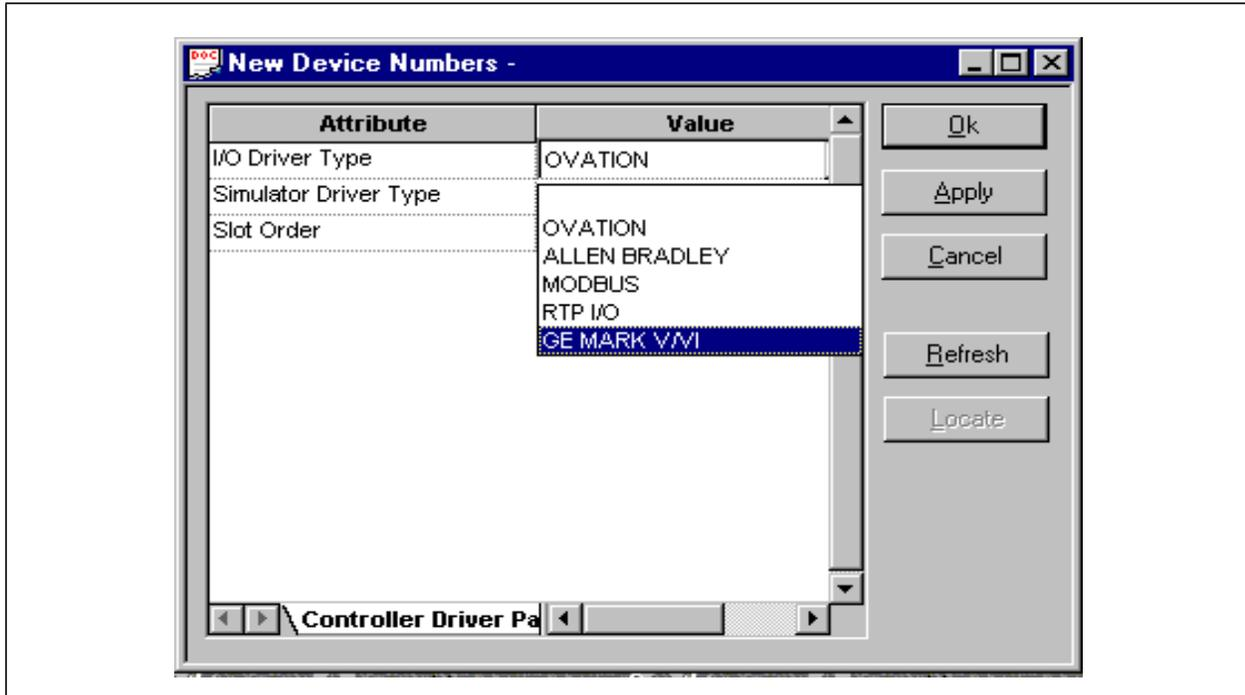

Figure 3-4. Controller Driver Parameters Tab (Default)
7. The Controller Driver Parameters tab within the New Device Numbers dialog box appears (see Figure 3-4).